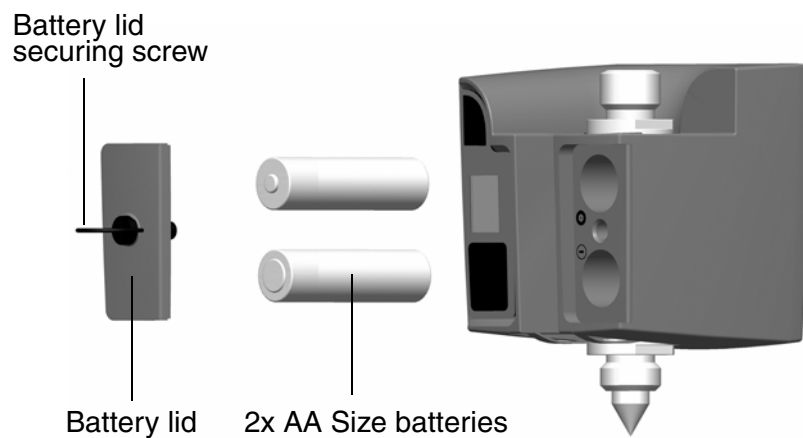

Figure 6.7 Target ID battery change
4. Fit the battery lid and then secure it by turning the screw a quarter of a turn clockwise. See Figure 6.7